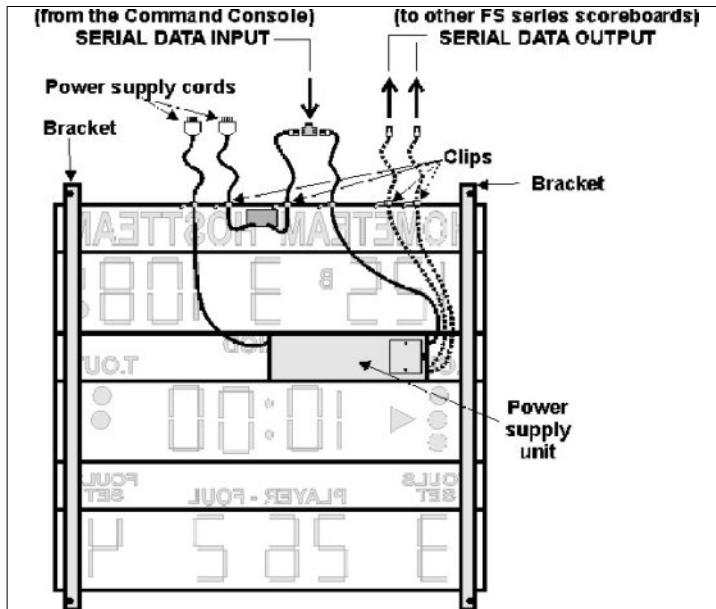

Fig. 3.6: Power and data connections
1. Insert every power cord into the proper socket and fasten the other end to the top part of the scoreboard with the clip provided for this purpose (see Fig. 3.6); this is to ensure that the power supply plug is positioned over the board once the board is installed on the wall.
2. For the main display scoreboards, in addition to the long serial cable used for connection to the Command Console, three thin cables of circa 1m are also provided. Insert one of these three cables into the "SERIAL DATA INPUT" port and fasten the other end to the top of the scoreboard by using the provided clip (see Fig. 3.6). This will make connecting to the Console's serial cable easier once the board has been installed on the wall.
4. For the Team Names module, insert the serial cable (approx. 1 m) into the "SERIAL DATA INPUT" port and then attach the other end on top of the scoreboard using the supplied clip (see Fig. 3.6).